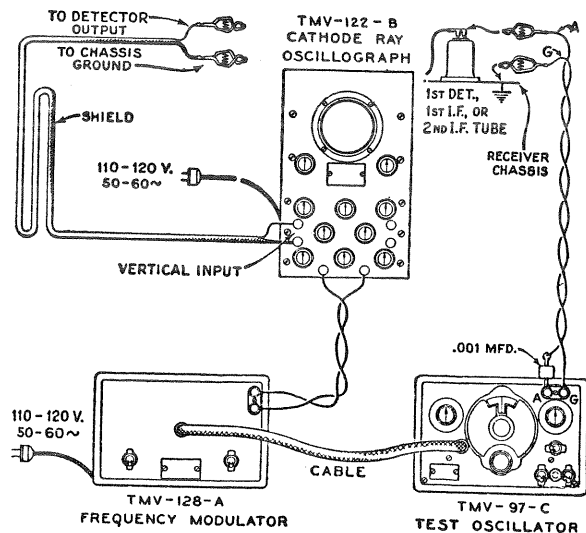
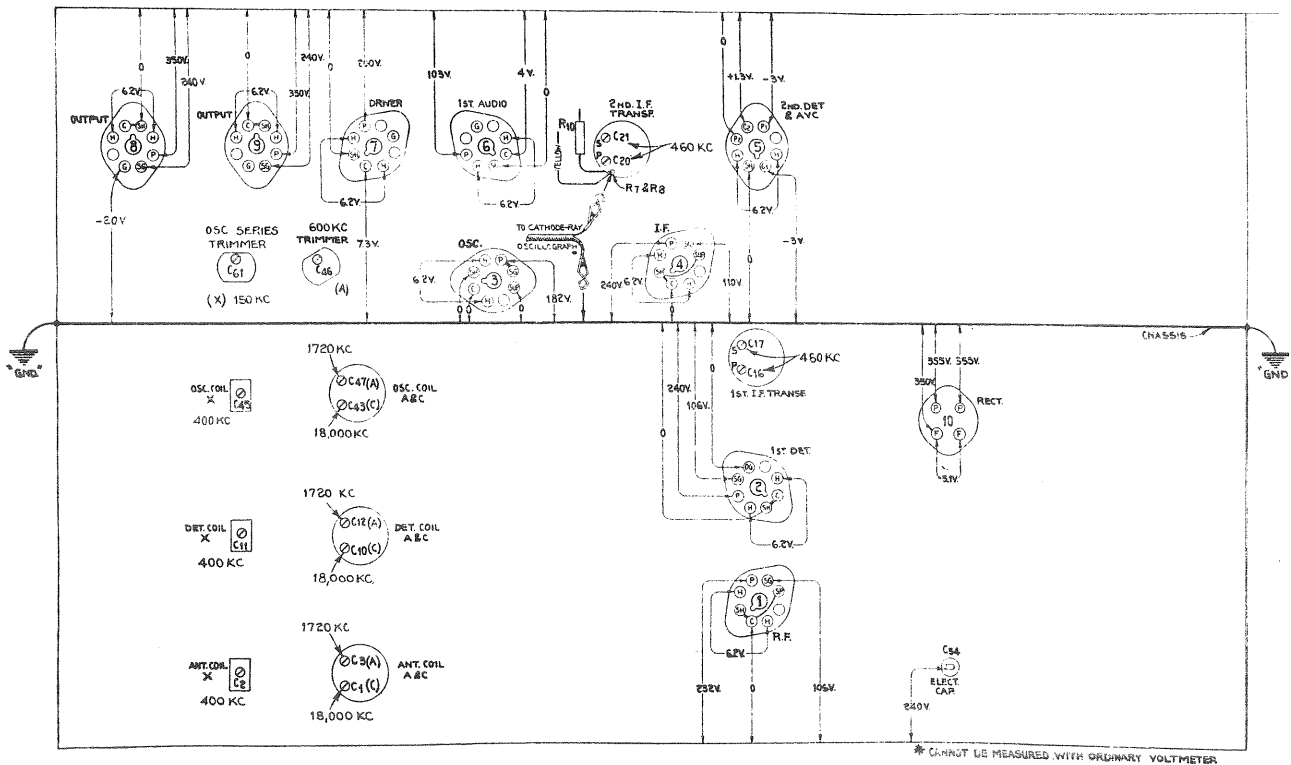

Figure 5—Alignment Apparatus Connections
Figure 6—Trimmer Locations and Radiotron Socket Voltages Measured at 115 Volts A.C.—No Signal—Volume Control Maximum
The four trimmers of the two i-f transformers are located as shown by Figure 6. Each must be aligned to a basic frequency of 460 kc. The last transformer must be aligned firstly and the first transformer aligned secondly. For such a process, it is necessary to feed the output of the Full Range Oscillator to the stages in their order of alignment, adjusting the trimmers of each transformer and observing the effect at the second detector output on the Cathode-Ray Oscillograph. The proper point of connection of the Oscillograph is with its vertical "high" input terminal attached to the juncture of R-7 and R-8, as illustrated in Figure 6, and with the "0" or ground terminal to the chassis. The "Ext. Sync." terminals of the Oscillograph should be connected to the Frequency Modulator as shown by Figure 5. A .001 mfd. capacitor installed in series with the Oscillator "Ant." lead will prevent the voltages of the stage under alignment from becoming upset. The vertical "A" amplifier should be "On" for the ensuing adjustments and its gain control kept at maximum. For each adjustment, the Oscillator output must be regulated so that the image obtained on the Oscillograph screen will be of the minimum size convenient for accurate observation. Proceed further as follows:—
- (b) Attach the output of the test Oscillator between the control grid cap of the RCA-6K7 i-f tube and chassis ground as shown typically by Figure 5. Tune the Oscillator to 460 kc. and set its modulation switch to "On." Regulate its output until the signal produces a wave pattern on the Oscillograph screen, adjusting the Oscillograph controls to give a shape which is convenient for peak indications. Cause the image to stand still on the screen by manipulation of the frequency and synchronizing controls. Then carefully tune the two trimmers C-20 and C-21 of the second i-f transformer to produce maximum amplitude (vertical deflection) of the oscillographic image. Under this condition the transformer will be sharply resonated to 460 kc.
- (c) The Frequency Modulator should then be placed in operation and interconnected with the Full Range Oscillator by means of the special shielded patch cord. Figure 5 shows the proper arrangement. Set the Frequency Modulator sweep range switch to its "Lo" position and turn the Oscillator modulation switch to "Off." Change the timing control of the Oscillograph to "Ext." and place the range switch to its No. 2 position. Then carefully shift the tuning of the Oscillator so as to increase its frequency, until two distinct and similar waves appear on the Oscillograph screen and become exactly coincident at their highest points. This condition will be found to occur at an Oscillator setting of approximately 540 kc. The curves will be identical in shape but appearing in reversed positions. Adjust the frequency control of the Oscillograph in order to cause the waves to conform with the above requirement and to make them remain motionless on the screen. This will require a setting of approximately $\frac{1}{2}$ clockwise rotation of the frequency control. The trimmers C-20 and C-21 should then be re-adjusted so that the two curves move together and become exactly coincident throughout their lengths, maintaining the maximum amplitude at which this condition can be brought about.
Locations of the various antenna, detector and oscillator coil trimmers are shown by Figure 6. The test Oscillator should be removed from connection with
sary to have the timing control of the Oscillograph on "Int." for this operation. After each trimmer has been peaked, the Oscillograph timing control should be set to "Ext." and the Frequency Modulator placed into operation with its connections to the Oscillator and Oscillograph made in accordance with Figure 5. Turn the modulation switch of the Oscillator to "Off" and retune the Oscillator (increase frequency) until the forward and reverse waves show on the Oscillograph and become coincident at their highest points. Adjust the trimmers C-47, C-12 and C-3 again, setting each to the point which produces the best coincidence and maximum amplitude of the wave images.
The voltage values indicated from the Radiotron socket contacts to chassis on Figure 6 will serve to assist in the location of causes for faulty operation. Each value as specified should hold within $\pm 20\%$ when the receiver is normally operative at its rated supply voltage. Variations in excess of this limit will usually be indicative of trouble in the basic circuits. The voltages given are actual operating values and do not allow for inaccuracies which may be caused by the loading effect of a voltmeter's internal resistance. This resistance should be duly considered for all readings. The amount of circuit resistance shunting the meter during measurement will determine the accuracy to be obtained, the error increasing as the meter resistance becomes comparable to or less than the circuit resistance. For the majority of readings, a meter having an internal resistance of 1000 ohms per volt will be satisfactory when the range used for each reading is chosen as high as possible consistent with good readability.